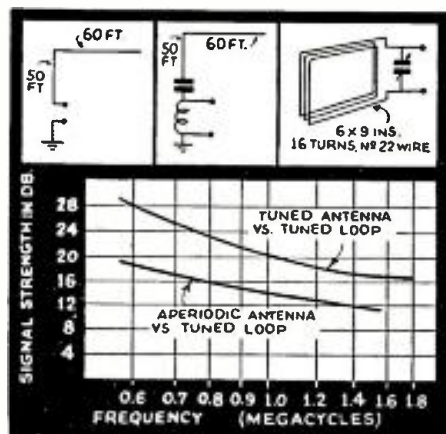
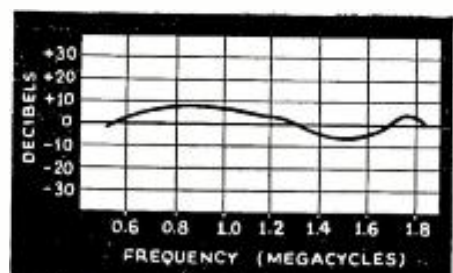

Fig. 1. Signal strength of tuned and untuned antennas compared with a tuned loop.
Fig. 2. Comparison of relative signal strength received from a noise-reducing system vs. conventional antenna of same dimensions.
B.—The only other circuit in F.M. receivers which is particularly annoying to the Servicemen at present is the discriminator circuit. However, if we analyze this portion of the receiver very carefully it will soon be seen that this is exactly the same as similar circuits which were used for automatic frequency control in A.M. receivers. See Fig. 1. The adjustment of these circuits is exactly the same as shown.
The graph of Fig. 1 shows a typical instance of relative signal levels from a tuned loop vs. ordinary outdoor antenna of the tuned and untuned types. Figure 2 shows the relative signal levels from a noise-reducing outdoor antenna (an outdoor antenna, equipped with noise-reducing units) vs. an ordinary outdoor antenna (that is, the same antenna without the noise-reducing units and with an open download).
From these graphs the superiority of the antenna over the loop for signal strength alone is established in these particular examples by inspection of Fig. 1. The superiority of the signal strength of the antenna equipped with noise-reducing units and transmission line over the conventional type, of the same dimensions, is apparent from Fig. 2.